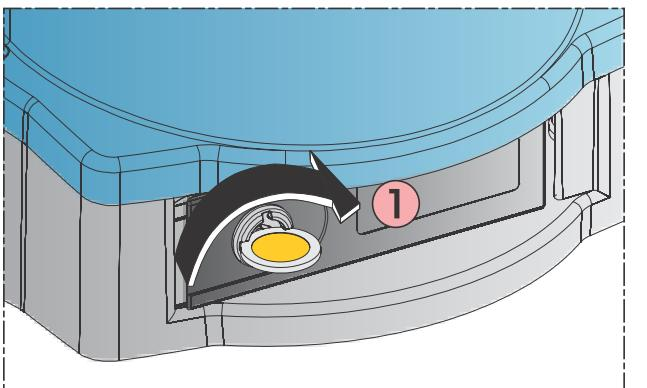

Fig. 16
1. Using a coin, turn the lock clockwise until it stops (Fig. 16 ref. ①)
2. Pull the lever as shown in fig. 16 ref. ②.